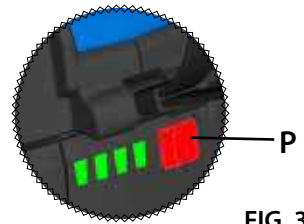

FIG. 3
2.7) Battery status (Ref. to Fig. 3)